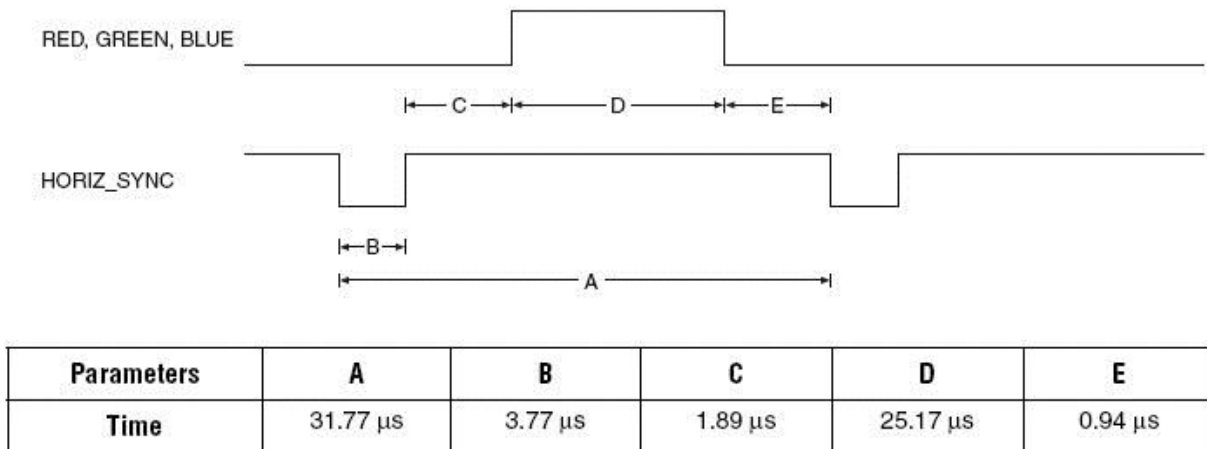
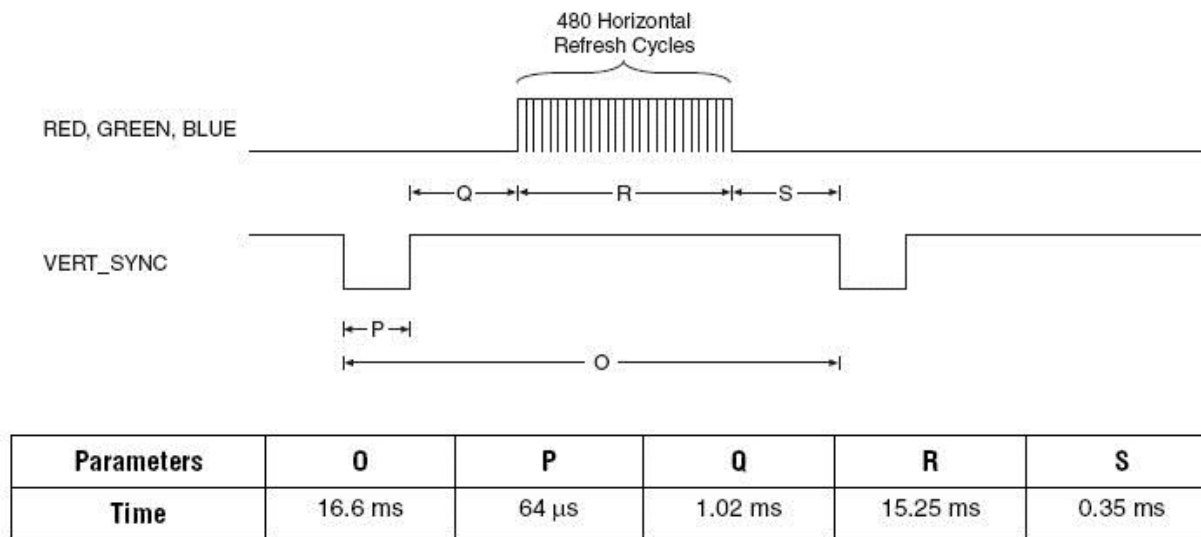

Figure 1. Horizontal Refresh Cycle.
Figure 2. Vertical Refresh Cycle.
The VGA monitor connector on the ALTERA DE0 board consists of five signals, RED(4 bits), GREEN(4 bits), BLUE(4 bits), `HORIZ_SYNC`, and `VERT_SYNC`. Look into the ALTERA DE0 Board User Manual for the header pin outs for the ALTERA DE0 board for these 5 signals. The timing relationships among this signal are shown in **Figures 1 and 2** at the end of this lab document. The generation of signals needed for the raster on the VGA monitor begins with dividing the frequency of the 50 MHz clock on the ALTERA DE0 board down to a 25 MHz pixel clock which is further divided down to the horizontal and vertical sync frequencies. This means your design will contain a **horizontal counter** and a **vertical counter**. The horizontal and vertical sync pulses of appropriate lengths are then produced from the two counters.
Horizontal and vertical synchronization. A video display consists of 640 pixels in the horizontal direction and 480 lines of pixels in the vertical direction. The monitor starts each refresh cycle by updating the pixel in the top left-hand corner of the screen, which can be treated as the origin (0,0) of an X-Y plane. **After the first pixel is refreshed, the monitor refreshes the remaining pixels in the row.** When the monitor receives a pulse on the **`HORIZ_SYNC`** pin, it refreshes the next row of pixels. The time required for the sweep, the horizontal sweep period, is nominally 31.77 μ s. This process is repeated until the monitor reaches the bottom of the screen. When the monitor reaches the bottom of the screen, a 64 μ s pulse applied to the **`VERT_SYNC`** pin, causing the monitor to begin refreshing pixels at the top of the screen (i.e., at [0,0]). As shown in Figure 2, the `VERT_SYNC` pulse must be repeated every 16.6 ms (vertical sweep period). A complete screen of information is being traced by the electron beam every 16.6 ms for a refresh rate of 60 Hz.
Blanking intervals. In order to accommodate the time required to move the electron beam back to the left side of the screen (horizontal retrace period) the electron beam must be turned off during the retrace time or the return trace would be visible. This is accomplished by two blanking intervals during the horizontal refresh cycle marked by B and C at the beginning of the trace and E at the end of the trace in Figure 1. Similar blanking intervals are required during vertical refresh (P, Q, and S in Figure 2). The color beams are turned on only when the horizontal counter is in the period D and the vertical counter is in period R.
- A value of zero on Hcount corresponds to the beginning of section D in Figure 1.
- A value of zero on Vcount corresponds to the beginning of section R in Figure 2.